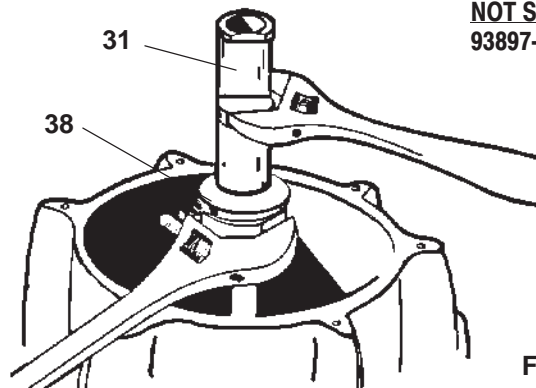

FIGURE 3
16. Disassemble (31) valve piston from (38) adapter as shown in figure 3.